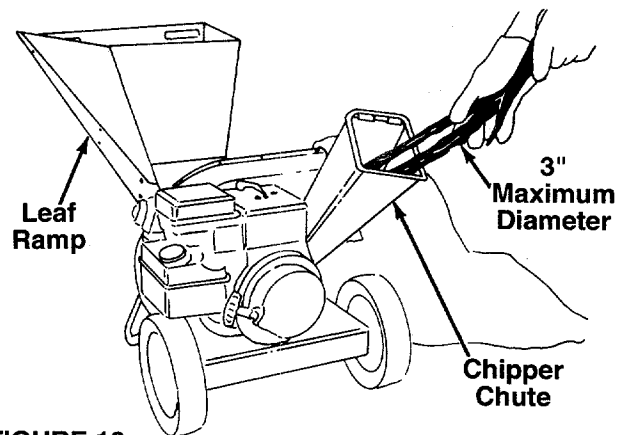

FIGURE 13.
3. Bulky material, such as stalks or heavy branches, **up to 3" in diameter** should be fed into the chipper chute. See figure 13.